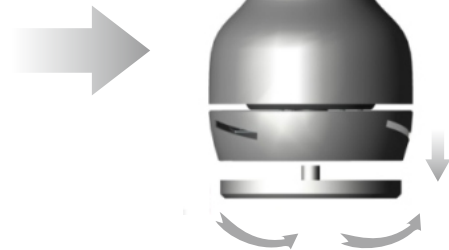

Fig. 1.2
1.2 Rotate and take out the motor hub cover as shown in Fig. 1.2.